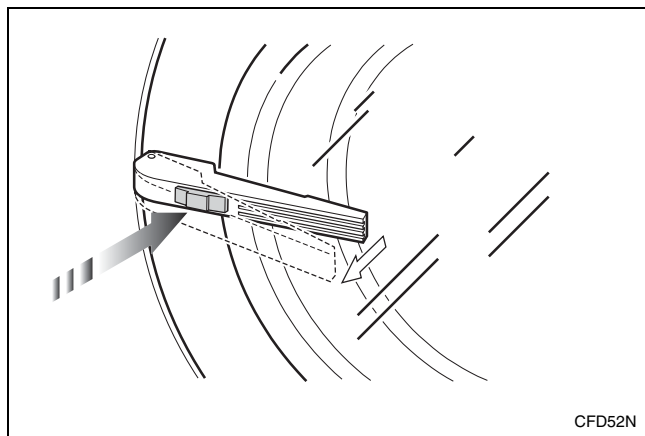

Figure 4
2. Push black button and pull door handle away from machine to open door. Refer to *Figure 4*.